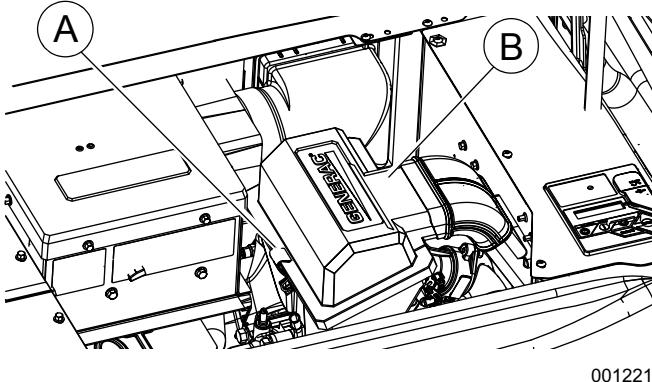

Figure 4-10. Removing the Air Cleaner Cover
- See **Figure 4-10**. Remove the cover clip (A) and air cleaner cover (B).